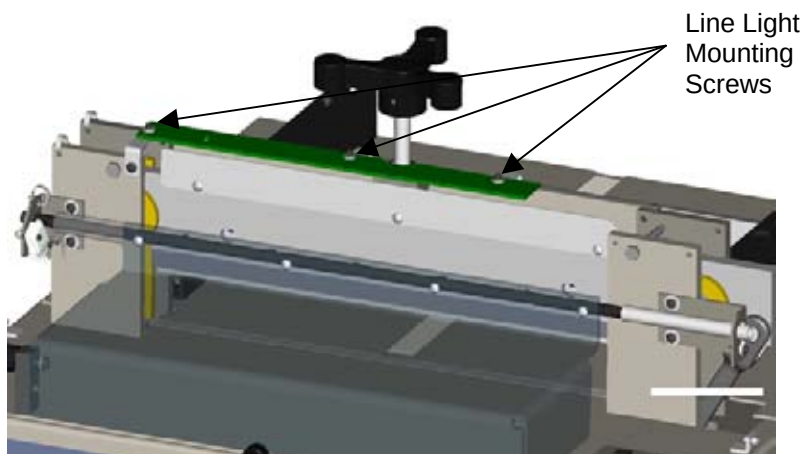

Figure 14
2. Loosen the three line light mounting screws (Figure 14, page 18).